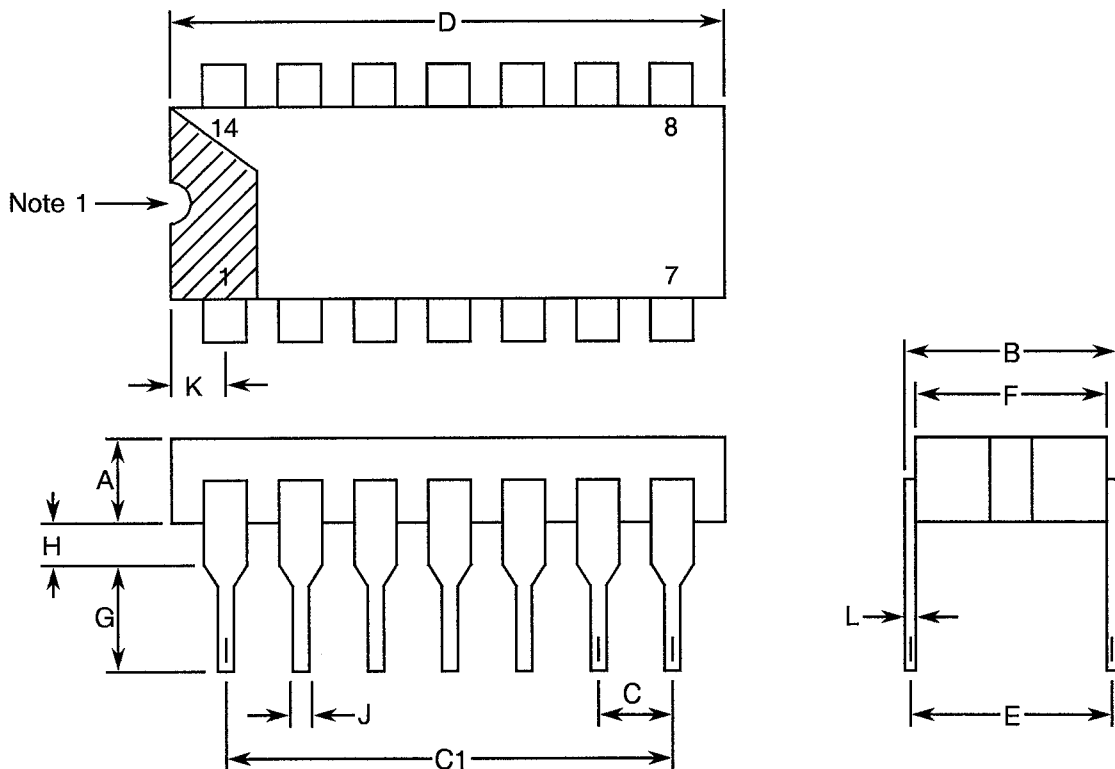

FIGURE 1 - PARAMETER DERATING INFORMATION
1.4 PARAMETER DERATING INFORMATION (FIGURE 1)